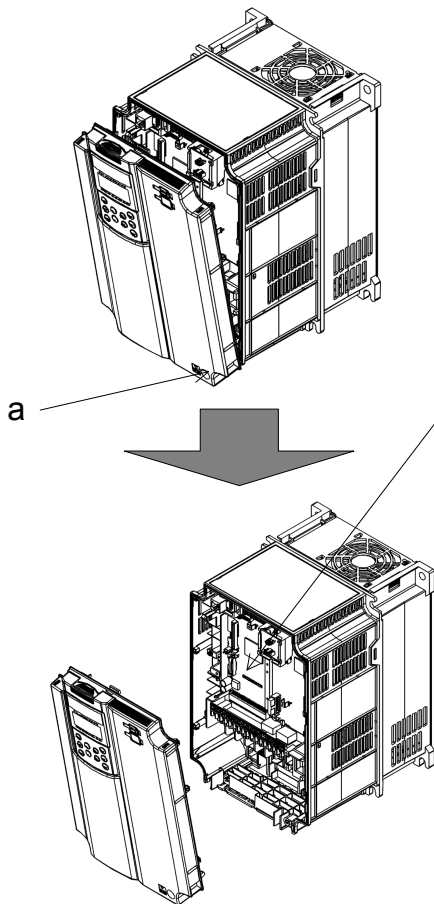

Figure 2.1-1 Removing the Front Cover
As shown in Figure 2.1-1, loosen the cover mounting screw on section "a" and pull out the upper end of the front cover towards you.
- (1) Loosen two screws (c) on the standard control circuit terminal printed circuit board and remove the board from F port (CN1) on the control printed circuit board.
- (2) Mount the OPC-VG1-TBSI.
- (3) Tighten two screws (d) to secure the OPC-VG1-TBSI in place.
- (4) Mount the control circuit terminal option.
- (5) Referring to Figures 2.1-1 and 2.1-2 “Removing the Front Cover,” reverse the removal procedure to mount the front cover.